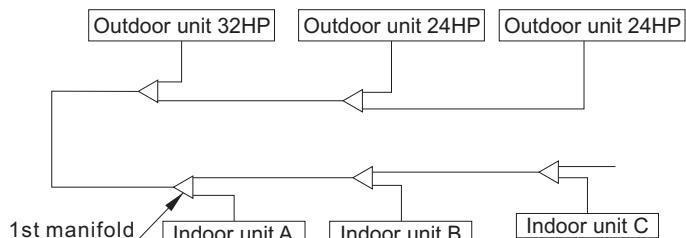

Fig. 3.9 Sequence of outdoor unit
1) The unit of 32HP is set at the 1st manifold (see Fig.3.9).